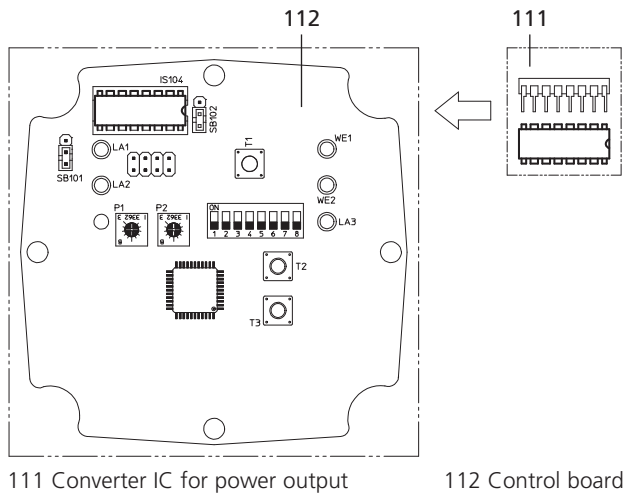

Fig 4.13 Converter IC (111) for current output signal on the control board (112)
- 2 Put the converter IC for the current output signal to the terminal legs into the socket on the control board (112).
See Fig 4.13, Converter IC (111) for current output signal on the control board (112).